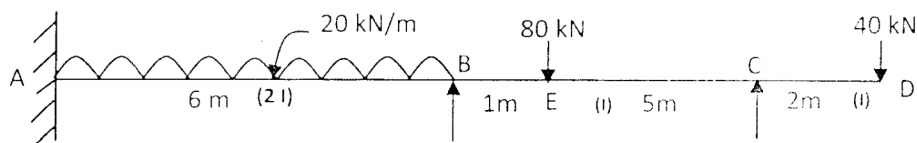

Figure: 5
8. A continuous beam is as shown in figure 5. The support B sinks by an amount of $15/EI$. Analyse the beam by using Slope deflection method? [10]